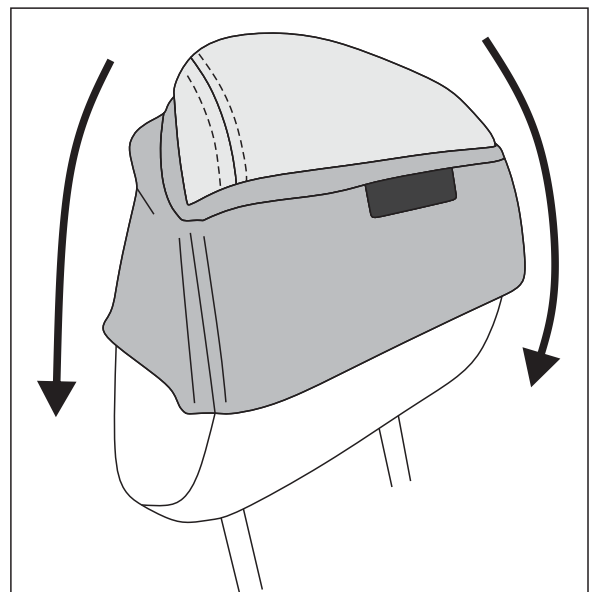

Fig.11
11. Turn the headrest covers inside out and lay upside down on top of the headrest. Proceed to wrap the headrest cover over the headrest by rolling it down evenly. To make sure the headrest cover is being fitted correctly, ensure the seams are aligned before rolling it down. Once fitted, attach the hook and loop tapes underneath (Fig.11).